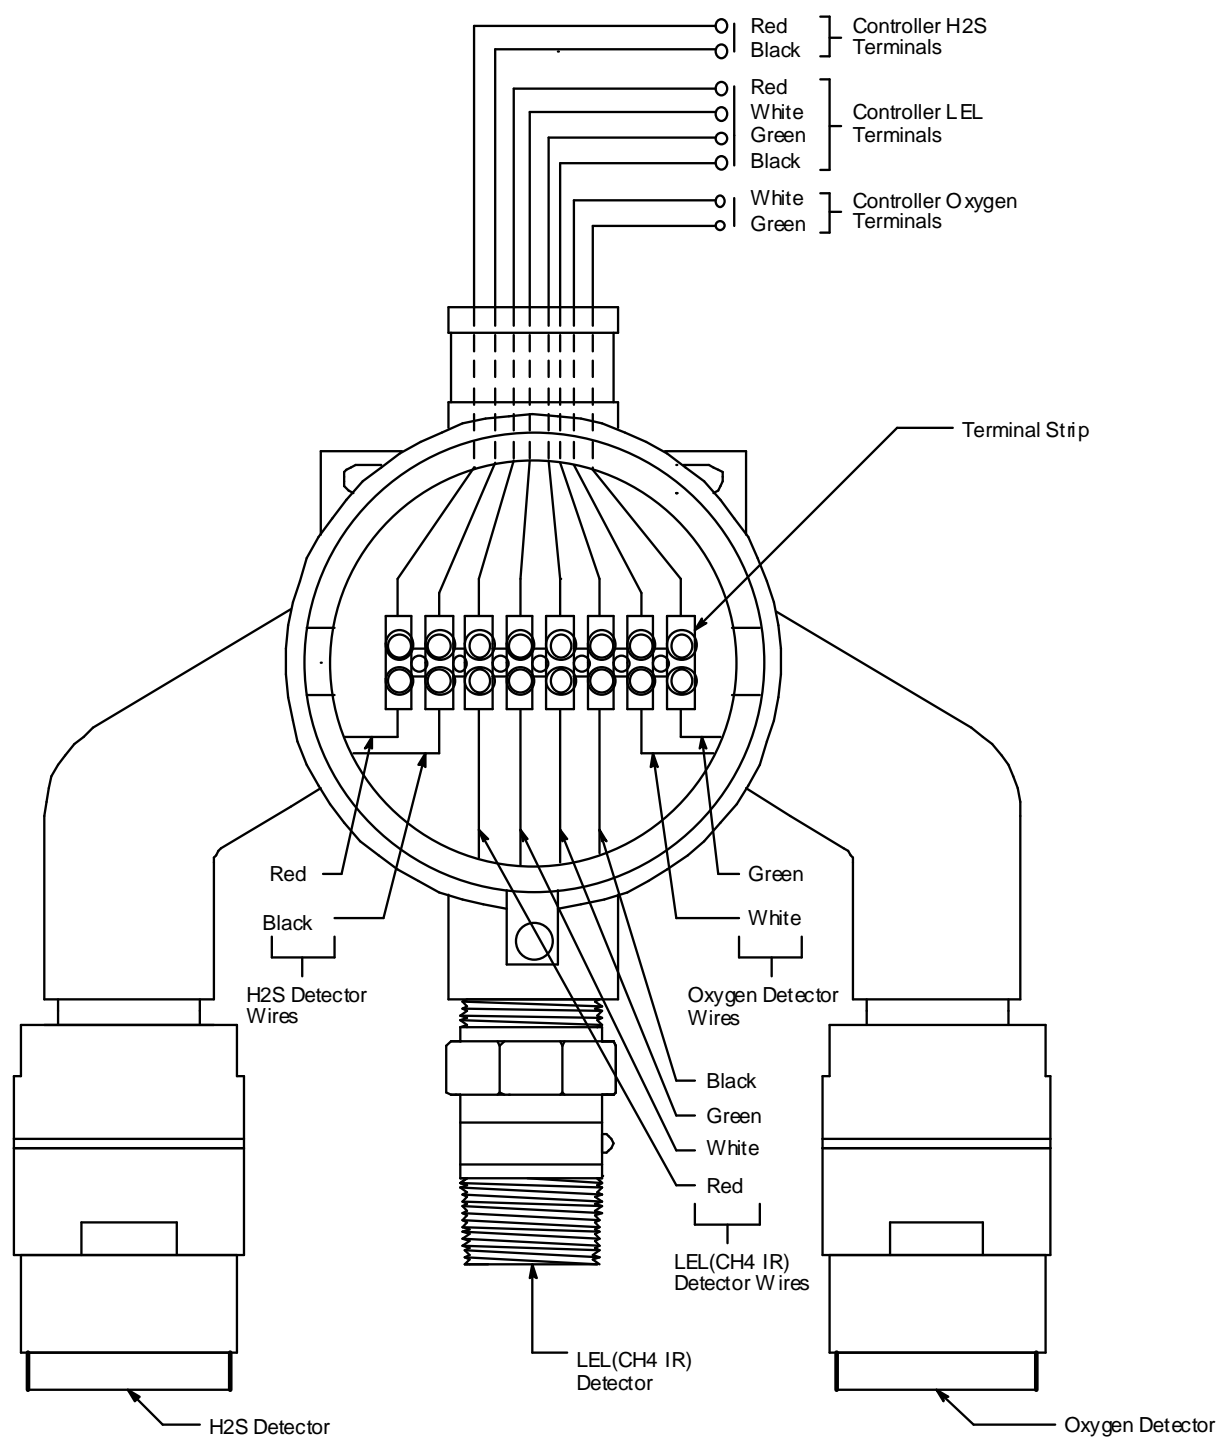
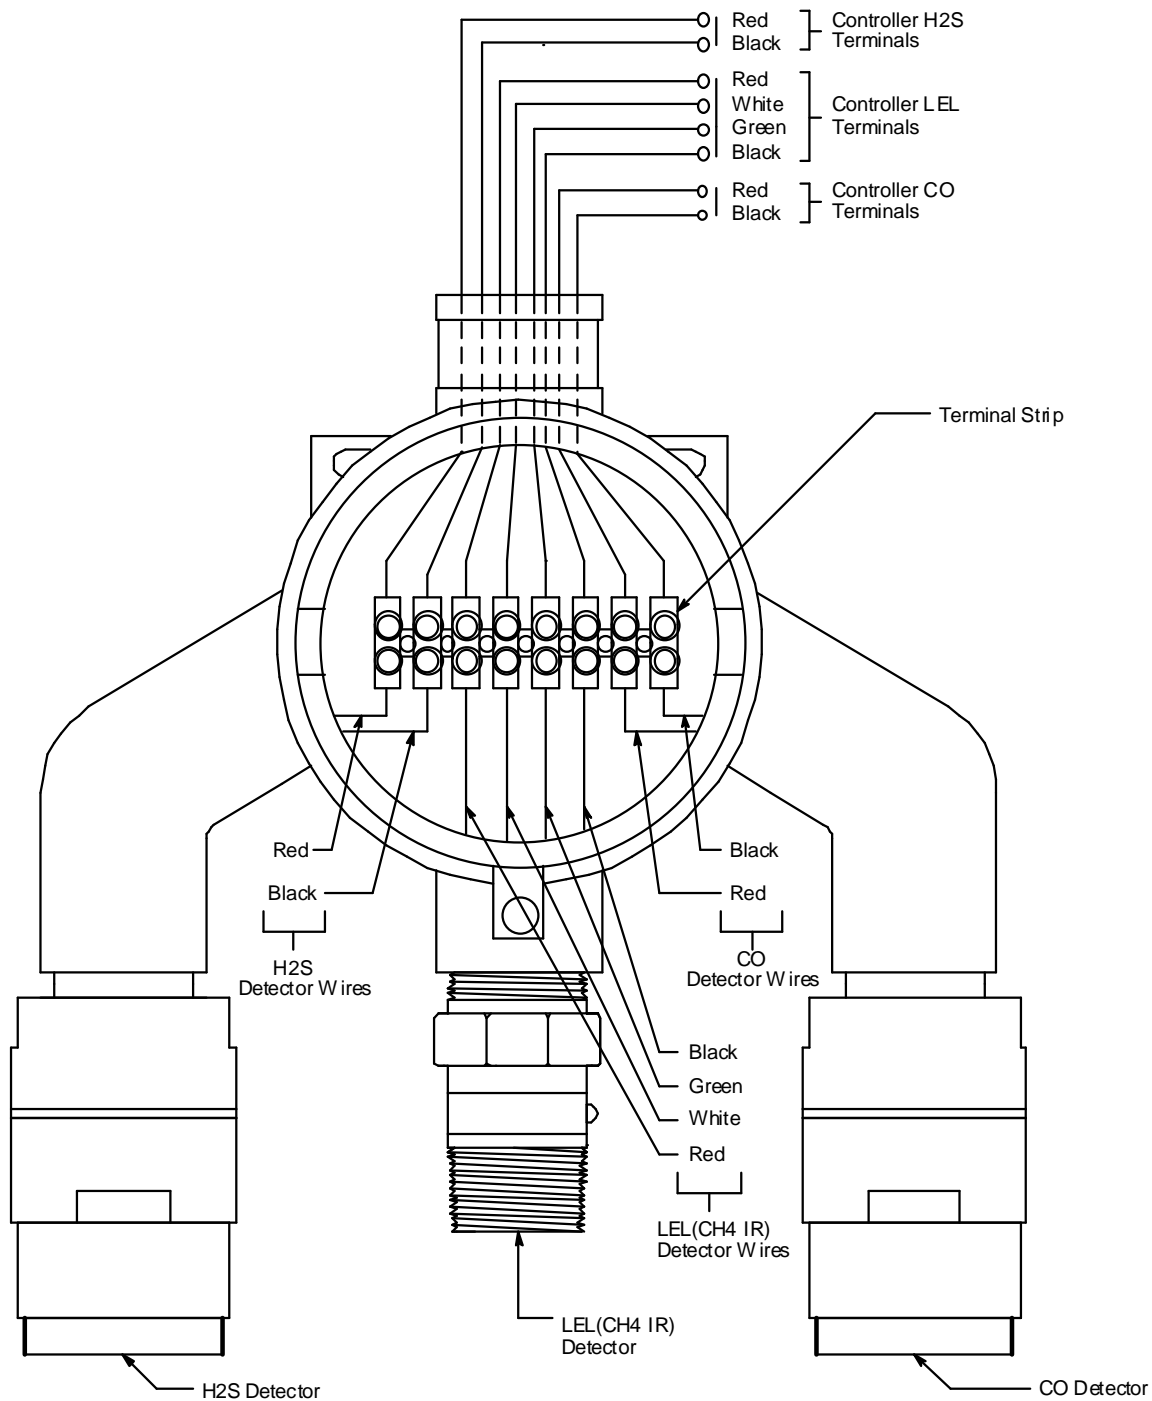

Figure 11: Wiring the 65-2482RK-01 to a Controller
Figure 16: Wiring the 65-2482RK-06 to a Controller
8. Connect the wires to the applicable controller terminal strips. See the controller operator's manual and the controller's detector head specification sheet. Also see Figure 11-Figure 16 for wiring diagrams for each detector model.
7. Connect the detector leads to the terminal block the same way the old detector was wired. See the controller operator's manual and the controller's detector head specification sheet for the IR LEL detector to verify the connections are correct. Also see Figure 11-Figure 16 for wiring diagrams.